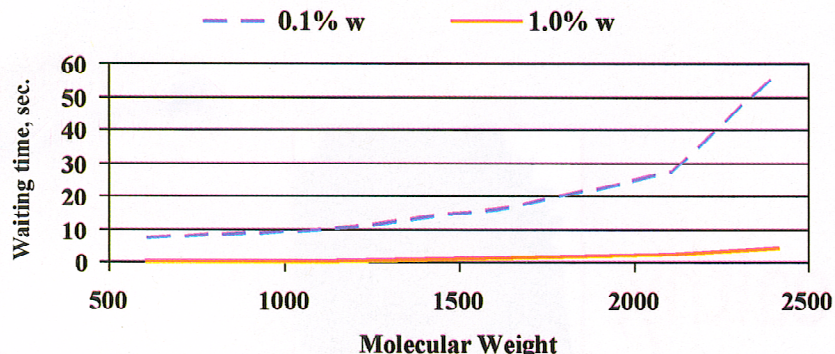

Figure 8. Draves wetting time
**PEG-8 dimethicone water-soluble silicone:** The molecular weight of a PEG-8 dimethicone has a dramatic effect upon performance of the compound in terms of both wetting and irritation. Molecular weight is a measure of construction. Figure 8 shows the molecular weight of molecules studied. Essentially, in the construction the compounds have the same ratio of D to D\*, only higher numbers of both.
Wetting is an aspect of cosmetic formulation that is critical but often overlooked. When something is applied to the hair, skin, a pigment or any other surface, how that surface wets is critical to the usefulness of the formulation. A silicone wetting agent at low concentration (0.1–1.0% by weight) must be added to make the product function correctly. Figure 8 details the Draves wetting time as a function of concentration. Draves wetting time is the time it takes to sink a cotton skin.